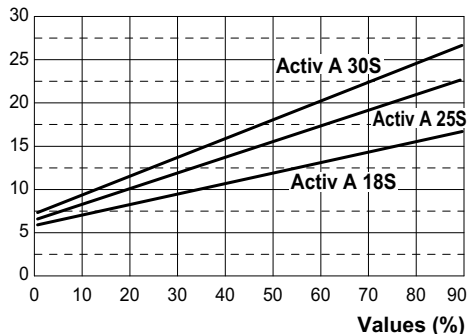
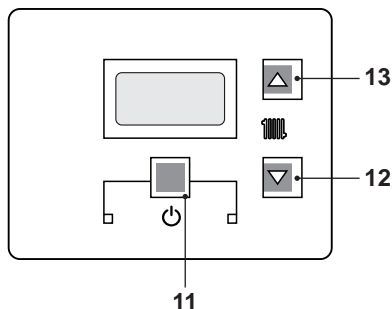
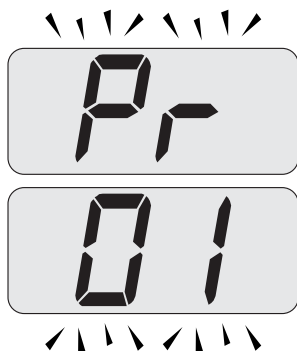

Fig. 7.40
Fig. 7.41
Fig. 7.42
Refer to Fig. 7.40 and determine the correct Value appertaining to the output required for the central heating requirement.
ing keys 11 - 12 - 13 (Fig. 7.41) for 10 seconds at the same time until the letters **Pr** that alternate with code **01** are displayed on the LCD display, indicating that "parameter 01"(Fig. 7.42) has been activated.
- Scroll the various parameters using keys 12 or 13 (Fig. 7.41) until the letters **Pr** that alternate with code **12** are displayed on the LCD display, indicating that "parameter 12" (Fig. 7.43) has been activated.
- Press keys 11 and 13 (Fig. 7.41) at the same time until the value of parameter 12 (99=Activ A 18S - Activ A 25S - Activ A 30S) is displayed on the LCD display (Fig. 7.44).
- It is possible to modify parameter using keys 12 or 13 (Fig. 7.41) (Refer to Fig. 7.40 and determine the correct Value appertaining to the output required for the central heating requirement.).
- By pressing key 11 (Fig. 7.41) confirmation of the inserted value is obtained.
- Press keys 11 and 12 (Fig. 7.41) at the same time to exit without changing the value (return to the parameters list Fig. 7.43)
- Press keys 11 - 12 - 13 (Fig. 7.41) at the same time for 10 seconds to exit the "programming mode".